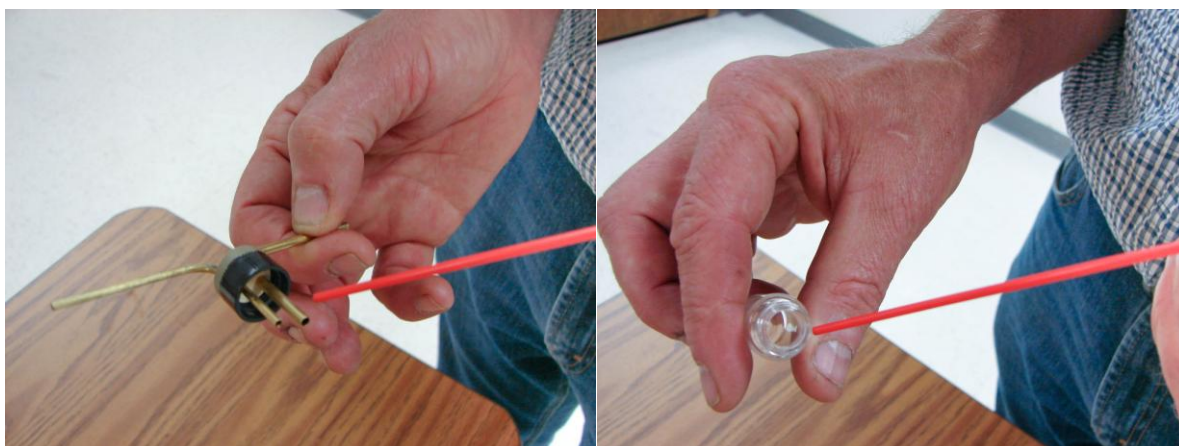

Figure 25: Cleaning the Glass Bead Dispenser
- 2.) Using the duster, clean the glass bead dispenser by blowing air through it (Figure 25). Make sure the bottom of the cap and tubes are cleaned as shown on the left in Figure 25. Also clean the dispenser's glass canister as shown on the right.